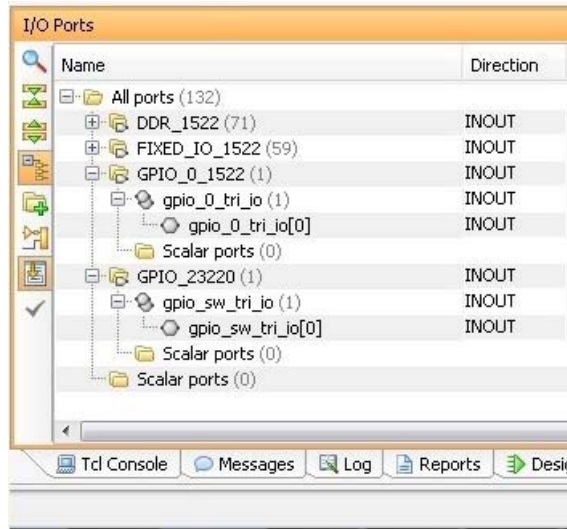

Figure 3-8: I/O Ports Site Map
27. Under the I/O Ports tab view at the bottom of the Vivado window (Figure 3-8), expand the **GPIO_0_1522** and **GPIO_23220** ports to check the site (pin) map.